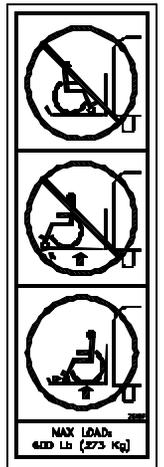

FIGURE 2-2:
- Refer to **Figure 2-2**. Wheelchair occupant should FACE OUTWARD when entering or exiting vehicle.